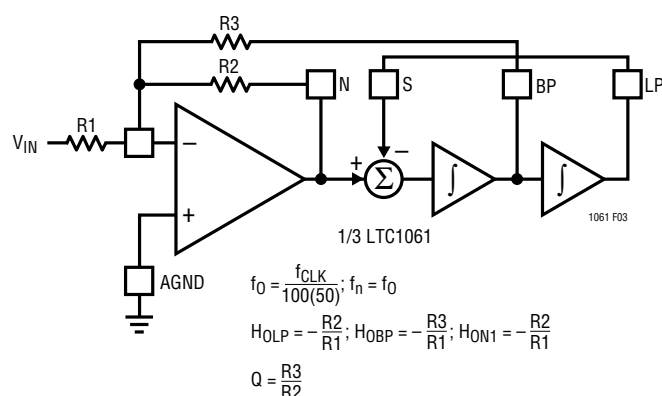

Figure 3. Mode 1: 2nd Order Filter Providing Notch, Bandpass, Lowpass
1. Primary Modes: There are two basic modes of operation, Mode 1 and Mode 3. In Mode 1, the ratio of the external clock frequency to the center frequency of each 2nd order section is internally fixed at 50:1 or 100:1. In Mode 3, this ratio can be adjusted above or below 50:1 or 100:1. The side C of the LTC1061 can be connected only in Mode 3. Figure 3 illustrates Mode 1 providing 2nd order notch, lowpass, and bandpass outputs (for definition of filter functions, refer to the LTC1060 data sheet). Mode 1 can be used to make high order Butterworth lowpass filters; it can also be used to make low Q notches and for cascading 2nd order bandpass functions tuned at the same center frequency and with unity-gain. Mode 3,